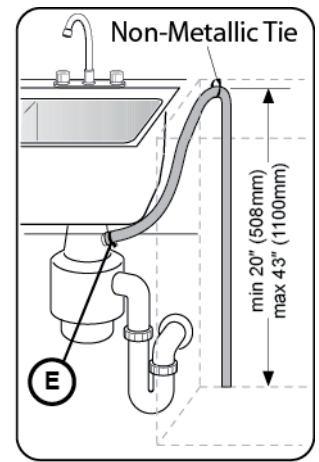

Figure 11
2. Directly to a disposer dishwasher drain connection, as shown in Figure 11.